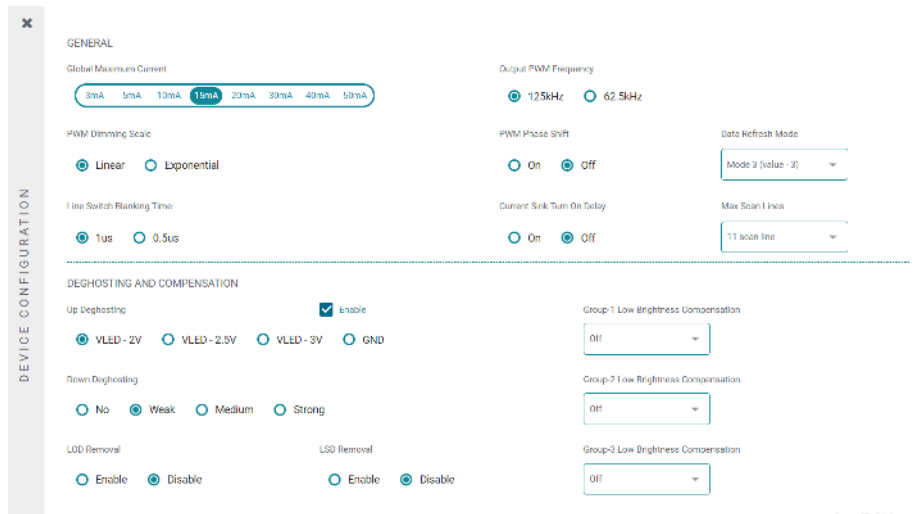

Figure 3-6. Device Configuration
| Figure 3-6. Device Configuration..... | 7 |
To improve performance under different applications, first configure some key settings. Select the *DEVICE CONFIGURATION* button to show the detail setting slide, which is illustrated in Figure 3-6. Maximum current (MC) is set here. If a high maximum current is set, an external VLED supply is recommended. The *Data Refresh Mode* settings determine whether a SYNC signal is required to synchronize the PWM change for every LED dot. The *Max Scan Lines* controls select how many scan lines are active. For more information on the functions for other settings, see the LP5860 11 × 18 LED Matrix Driver with 8-bit Analog and 8-, 16-bit PWM Dimming Data Sheet.